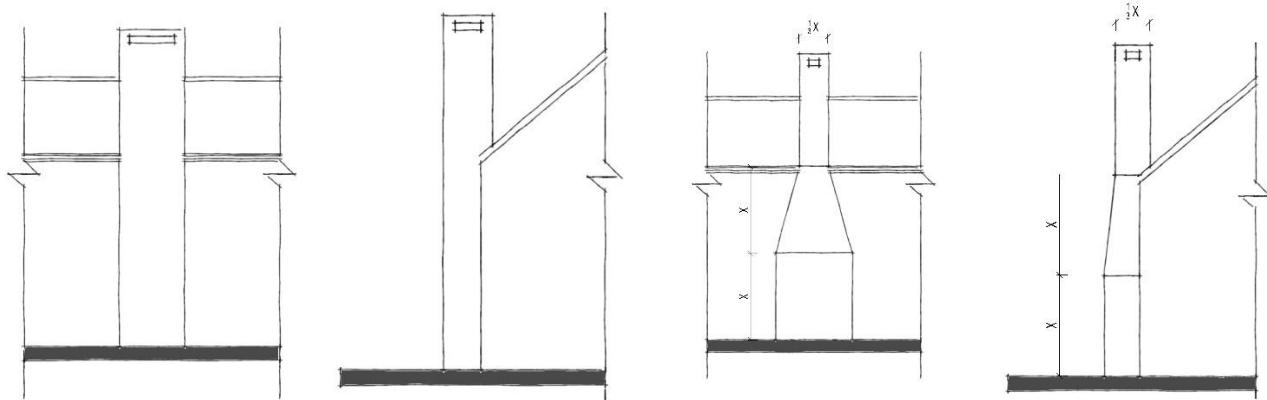

Figure 17
- (i) All masonry chimneys should be strictly as per Figure 17 below.